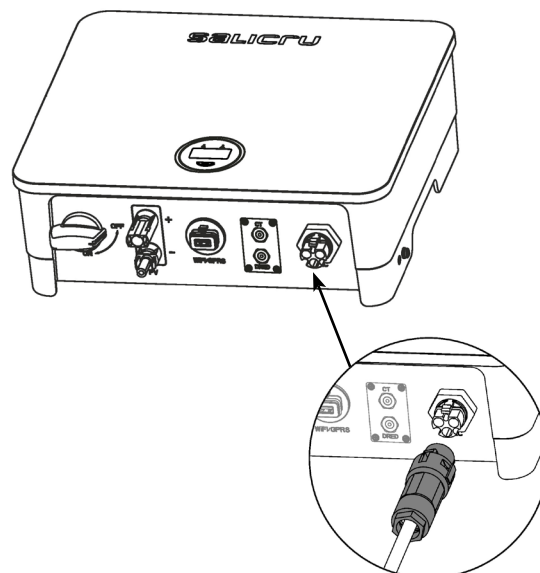

Fig. 31. Connecting the AC connector to the inverter's AC terminal.
- Connect the AC connector to the inverter's AC terminal; a click indicates that the connection is in place, as shown in Fig. 31: